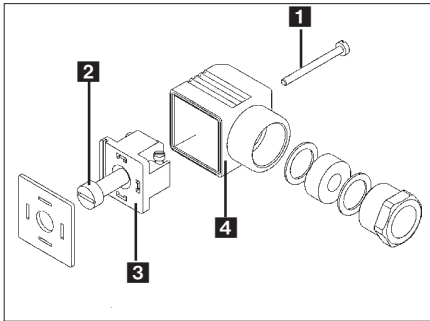

Fig. 3.3 Plug assembly
1. To open the connector remove screws **1** and **2** including the plastic ring (Fig. 3.3).